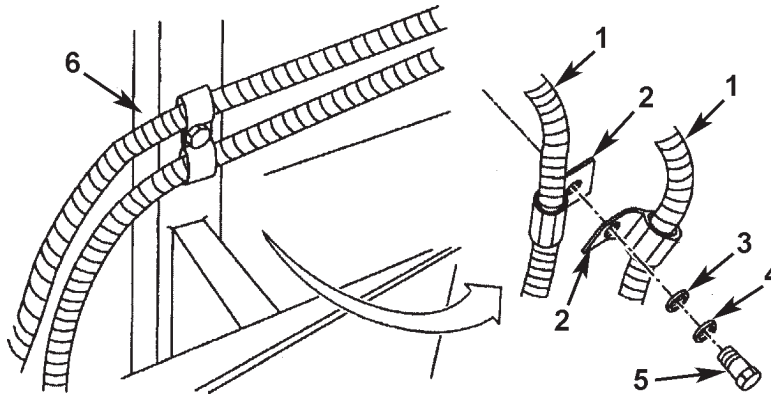

Figure 66. Blade Folder Hose Clamps (2 of 2).
Step 3 applies to Figure 66.
- Secure two blade folder hoses (item 1) with two clamps (item 2), one flat washer (item 3), new lock washer (item 4), and screw (item 5) to hole on hull member (item 6).